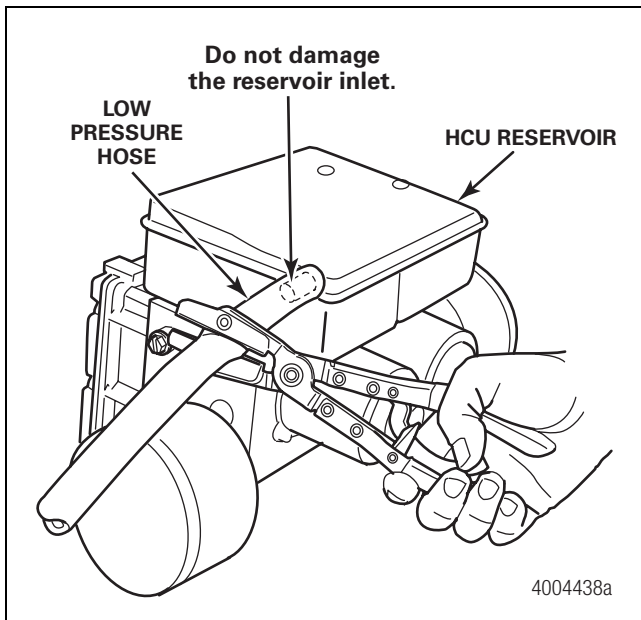

Figure 6
- Attach a pinch clamp to the low pressure hose near the HCU lower reservoir inlet. Figure 6.